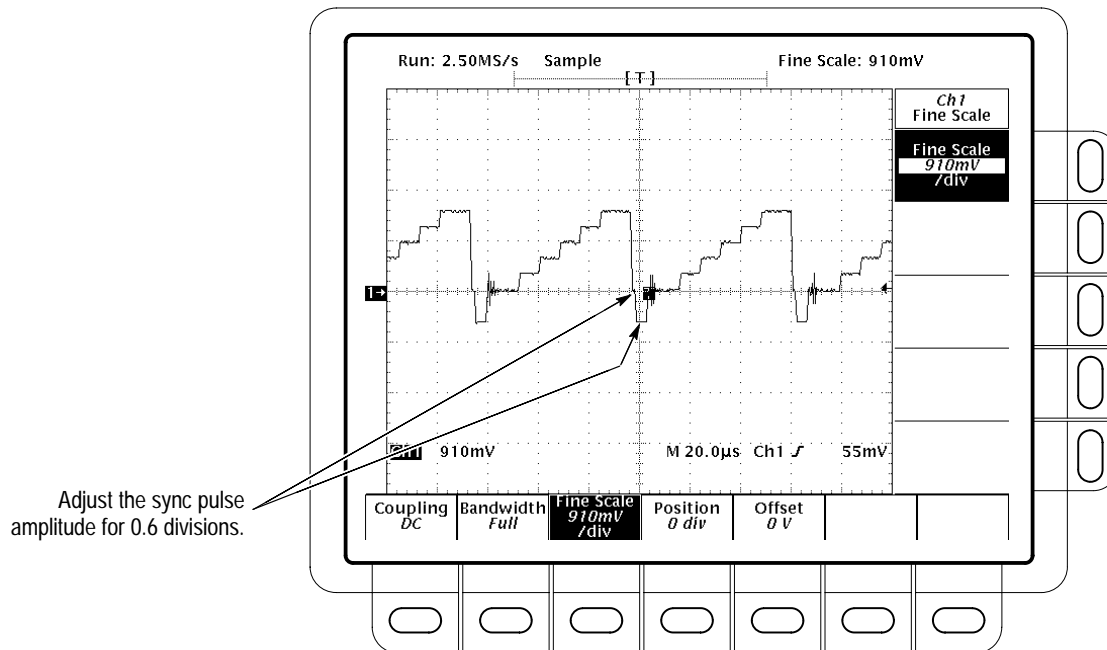

Figure 4–18: Adjusting Sync Pulse Amplitude
- Use the General Purpose knob, adjust the fine gain until the sync pulse amplitude is 0.6 divisions measured using the graticule (see Figure 4–18).